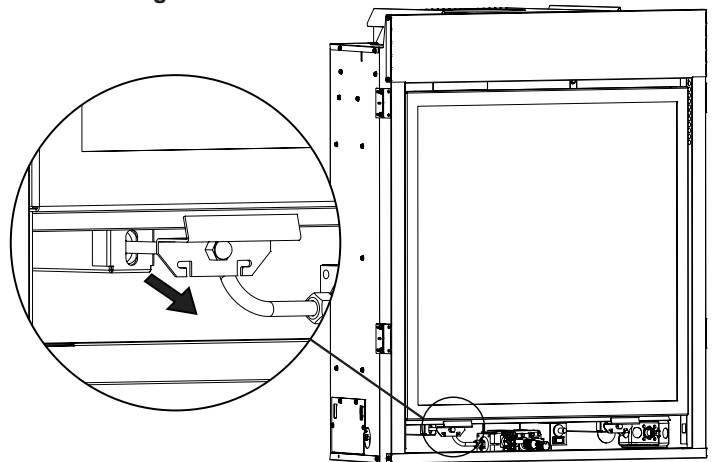

Figure 6
2. Undo two latches at the bottom of the firebox assembly. **See Figure 6.**